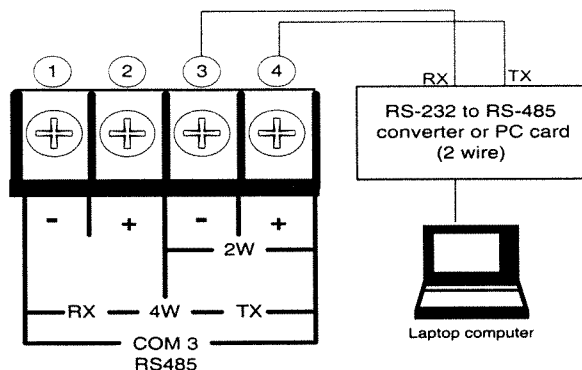

Figure 6-5 RS-485 2-Wire Testing
3. On the rear of the unit, connect a PC to the relay at terminals 3 (-) and 4 (+) via RS-485 converter set for 2 wire operation. See Figure 6-5 for diagram.